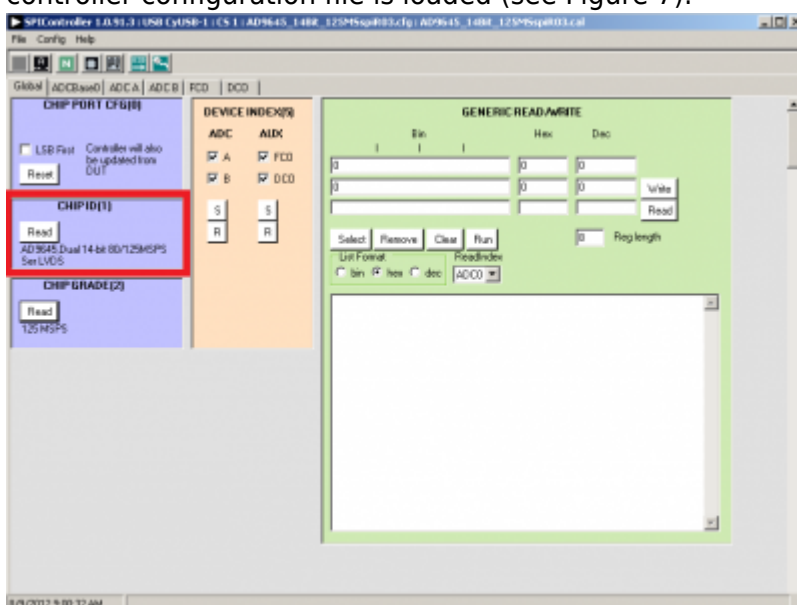

Figure 7. SPI Controller, CHIP ID(1) Box
1. Open the SPI controller software by going to the **Start** menu or by double-clicking the **SPIController** software desktop icon. If prompted for a configuration file, select the appropriate one. If not, check the title bar of the window to determine which configuration is loaded. If necessary, choose **Cfg Open** from the **File** menu and select the appropriate file based on your part type. Note that the **CHIP ID(1)** box should be filled in to indicate whether the correct SPI controller configuration file is loaded (see Figure 7).